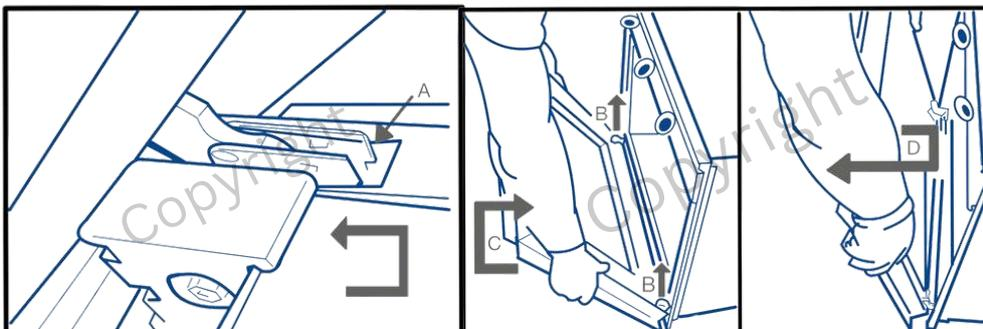

figure 2
3. Close the door slowly until it engages in an intermediate stop (position A). Then carefully lift the door (B) and turn it slightly (C) until it releases from the hinges (D) (see figure 2).